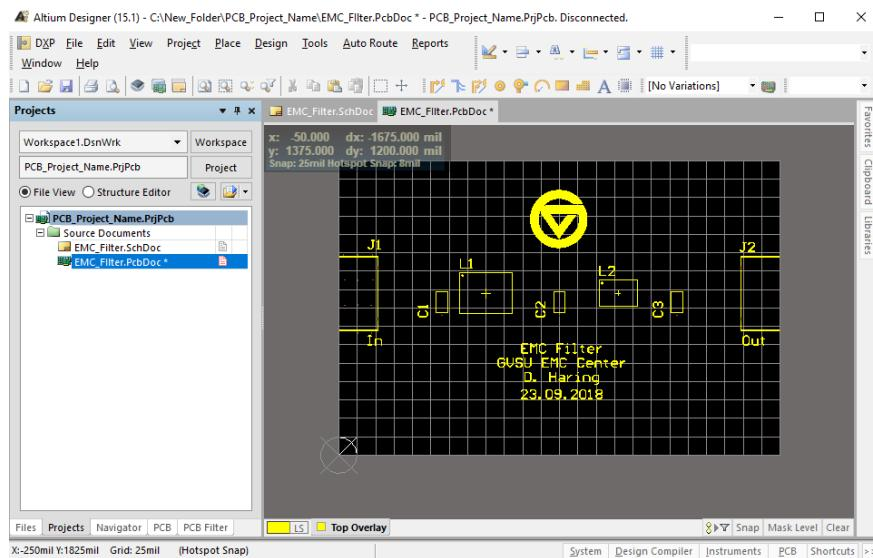
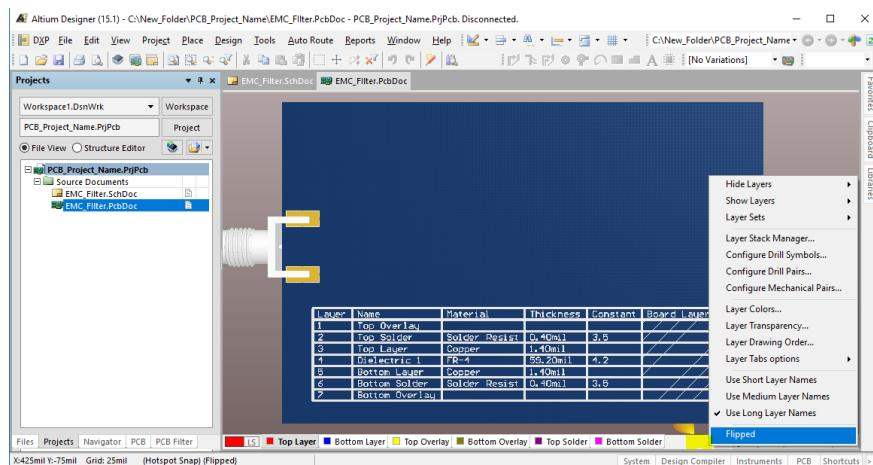

Figure 98: Altium PCB GDP Silkscreen.
Figure 99: Altium PCB GDP Layer Stack Table bottom silkscreen.
56. After the routing is finished place additional text onto the silkscreen layer top and bottom if necessary, Figure 98 shows the top silkscreen. A text string is placed by pressing P then press S. Furthermore, the layer stack can be placed as well as example on the bottom silkscreen. Press P and then chose Layer Stack Table from the tool tip menu. Press Tab to open the Layer Stack Table dialog and un-check Draw Board Map and change text width to 6 mil and text height to 36 mil, press OK. It is important to place the layer stack table first on the top silkscreen than drag and hold it and press L which mirrors the component onto the bottom layer. To check if it is mirrored correctly switch the view to 3D view by press 3 and flip the board to check that the layer stack is shown correctly, as shown in Figure 99. To flip the board in 3D view right click on the highlighted place to open the shown menu and click Flipped. The 3D view is a very effective tool to proof that the design is correct. The concept of mirroring from top to bottom is important if a component an integrated chip (IC) is only flipped to the bottom sight the footprint will be wrong so take special care that the part is it should be.